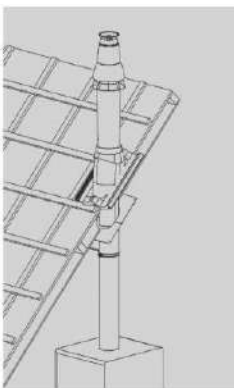

Figure 4.20 Connecting concentric system
9. Connect the flue terminal to the appliance with appropriate flue pipe and fittings. Install the concentric vent in accordance with the installation instructions supplied with the straight vent sections. See figure 4.20.